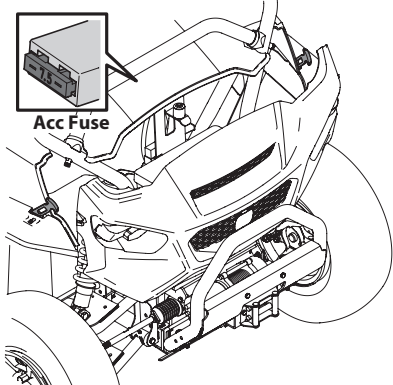

Figure 4-10
- Remove the Acc (accessory) electrical fuse and replace if needed with proper rated amp fuse. See Figure 4-10.